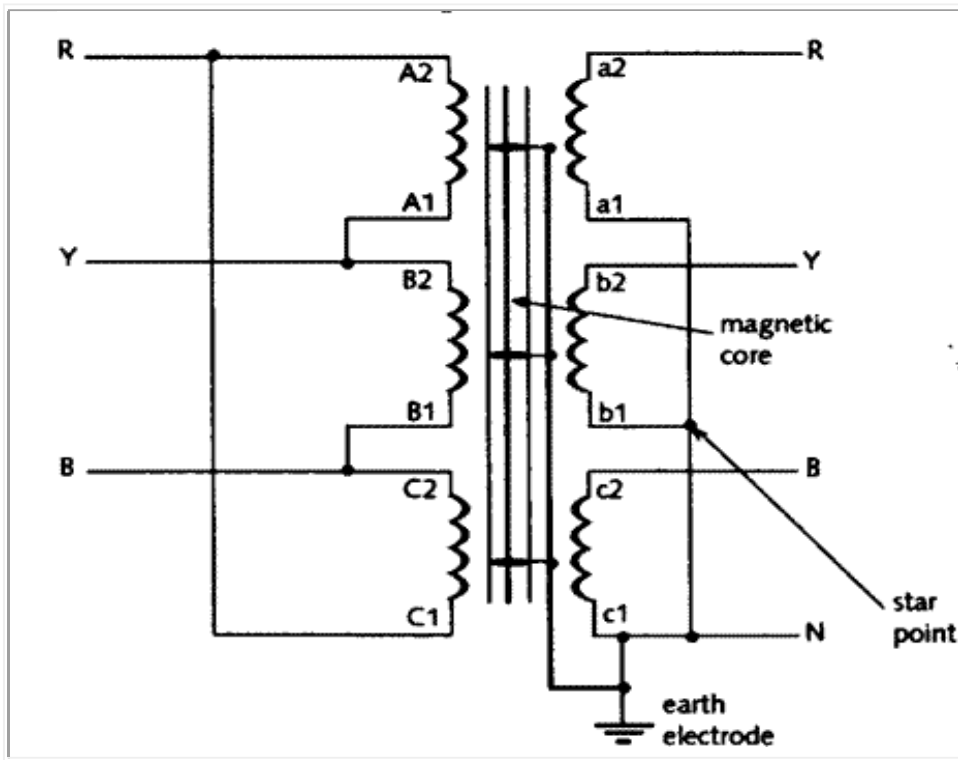

Fig .1 - Three-phase delta/star transformer showing earthing arrangements.
- The standard method of tying the electrical supply system to earth is to make a direct connection between the two. This is usually carried out at the supply transformer, where the neutral conductor (often the star point of a three-phase supply) is connected to earth using an earth electrode. Figure 1 shows such a connection.